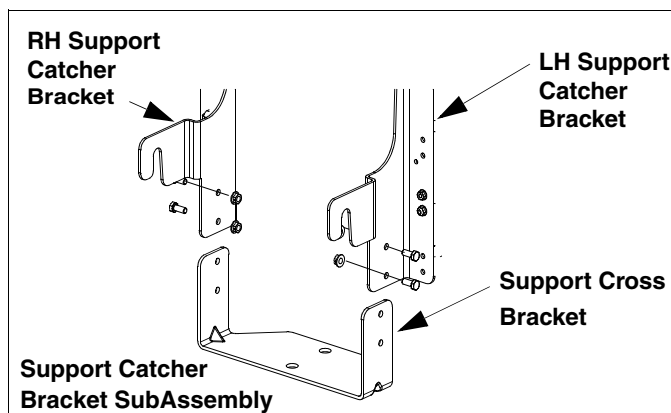

Figure 7
- Place the Support Cross Bracket (Ref. No.1) between the LH Support Catcher Bracket (Ref. No. 2) and the RH Support Catcher Bracket (Ref. No. 3). Position the Support Cross Bracket as shown in Figure 7 .
- Install the four (4) Hex Head Screws (Ref. No. 6) through the LH and RH Support Catcher Brackets and Support Cross Bracket and secure with Flanged Lock Nuts (Ref. No. 10). Do not tighten, leave slightly loose. Refer to Figure 7.